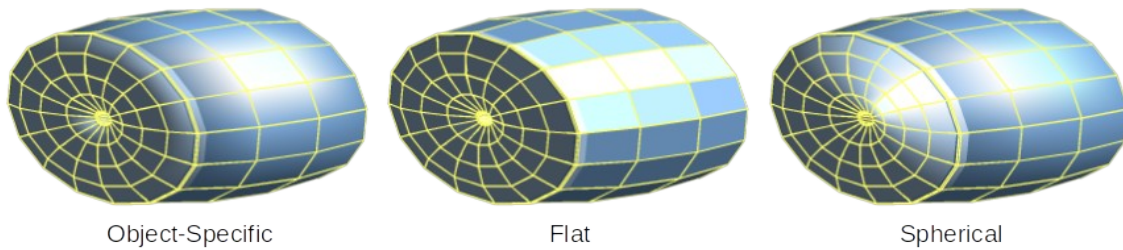
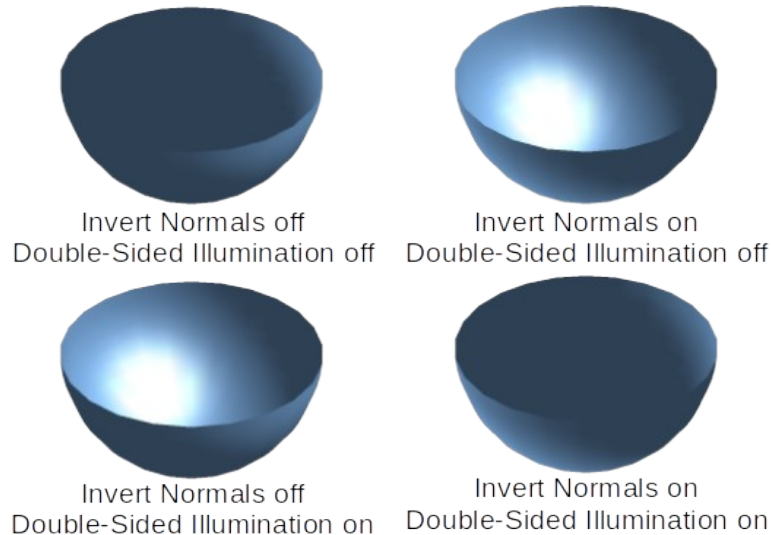

Figure 18: Examples of object specific, flat and spherical effects
Figure 19: Examples of invert normals and double sided illumination
- **Normals** – modifies the rendering style of the 3D surface (Figure 18 and Figure 19).
Figure 19 demonstrates the 3D effect of using *Invert Normals* in conjunction with using the 3D effect *Double-Sided Illumination*.